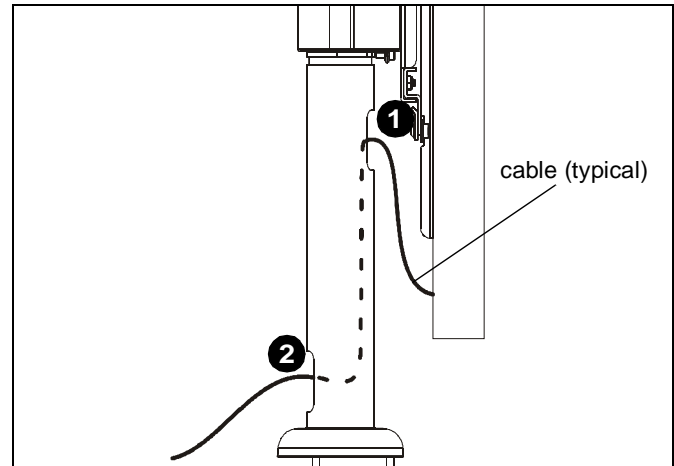

Figure 9
1. Route cables from display into upper hole on pole portion of table stand (B). (See Figure 9)
2. Route cables down the pole and out of lower hole. (See Figure 9)